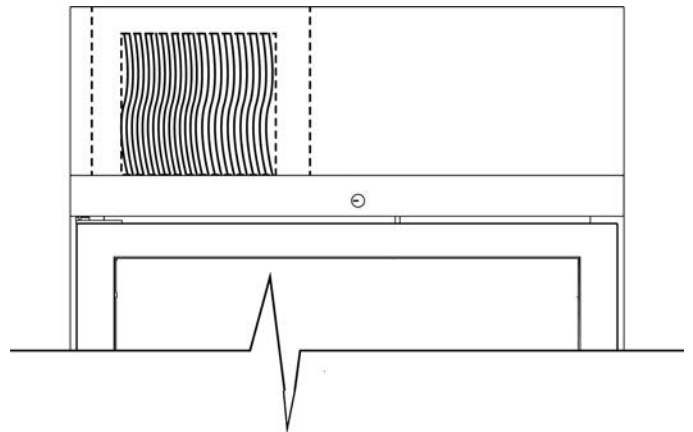

Fig 1: Location of Condenser
- The condenser is located on the left-hand side of the cabinet behind the front panel (**Fig 1**). To remove the front plate lift the panel up to free it from the locating blocks. Once free pull the panel carefully forward and away from the refrigerated incubator to have full access to the condenser and would be able to clean it.